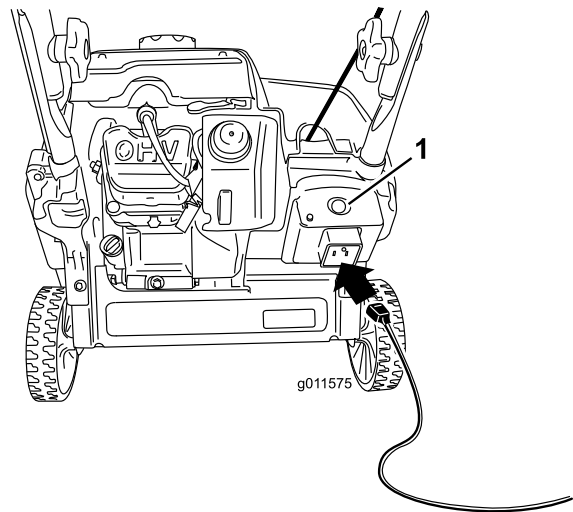
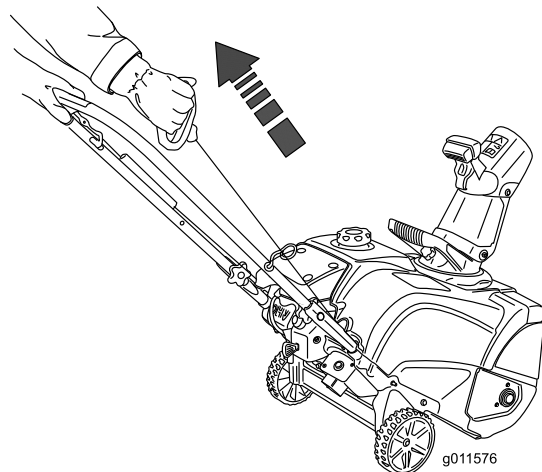

Figure 20
Figure 21
4. Connect an extension cord to a power source and the snowthrower, and push the electric-start button (model 38282 only) (Figure 20), or pull the recoil start handle (Figure 21).